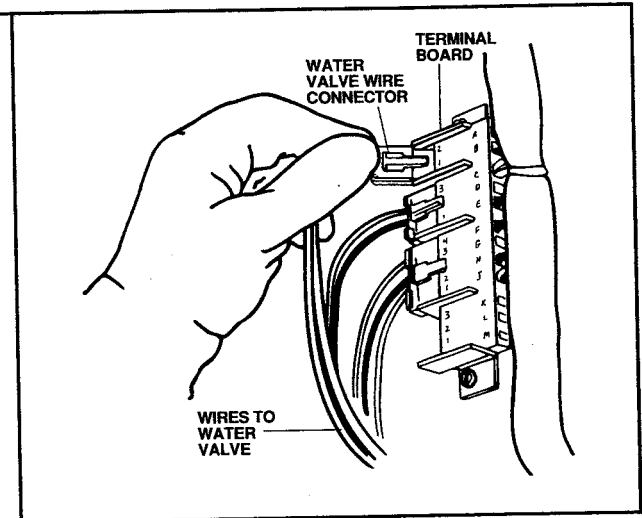

Figure 24
- e. Plug the water valve wire connector into the terminal board at the points on the top left position, marked "1" and "2," across from "A" and "B." See Figure 24.